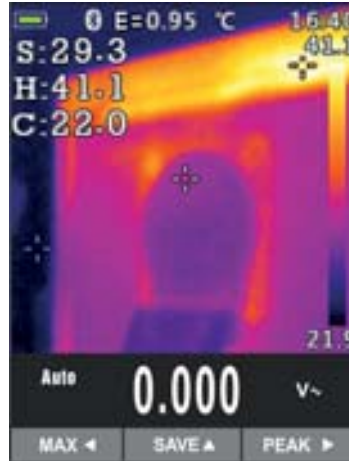

Fig. 45: Saving IR images
9. Press key **HOLD/REL** to freeze the result. Message “HOLD” and **SAVE ▲** key appears on the display (see Fig. 45)